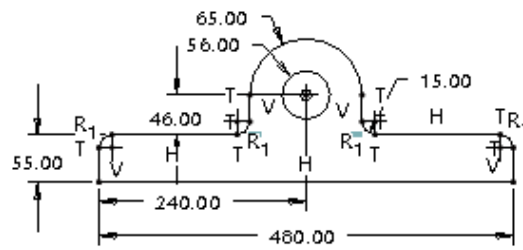

Figure 2-44 Sketch after modifying the dimensions
- e. Modify dimensions of the sketch, refer to Figure 2-44.
The sketch after modifying the dimension values is shown in Figure 2-44.